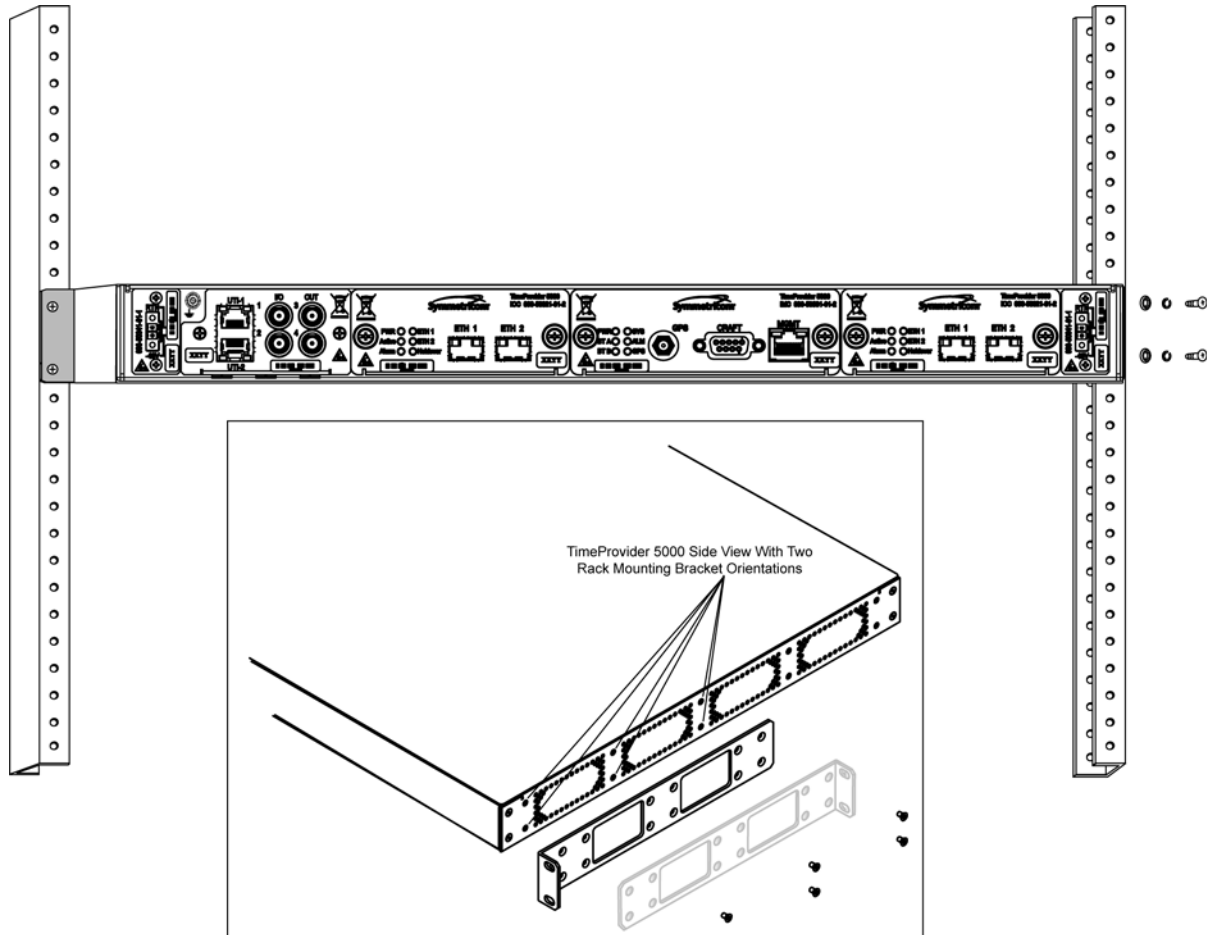
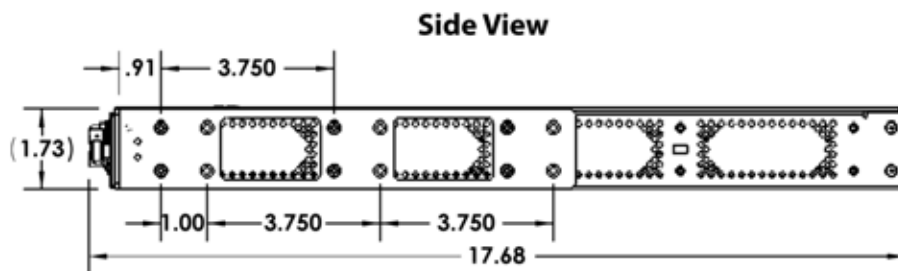
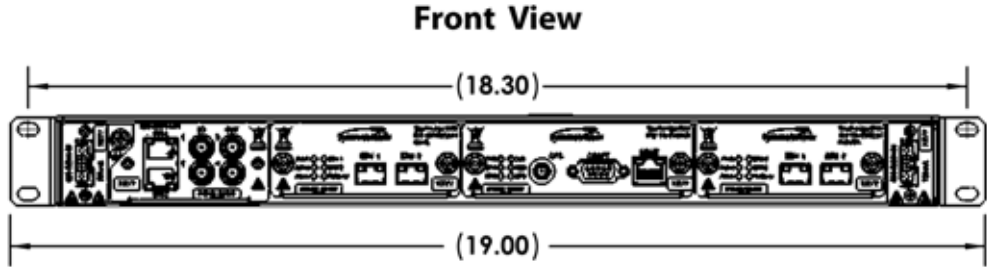
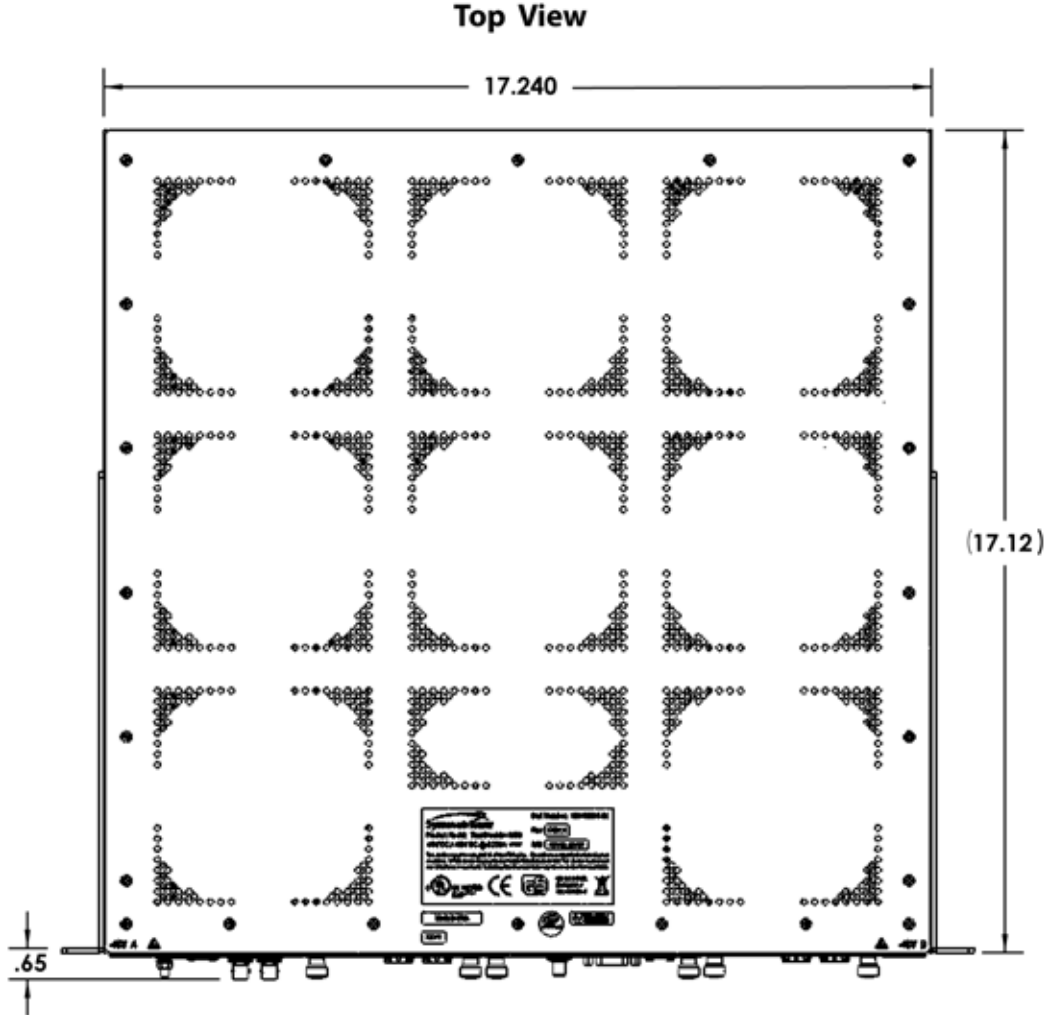

Figure 3-2. Installing the TimeProvider 5000
Figure 3-3. Chassis Dimensions – Side View
Figure 3-4. Chassis Dimensions – Front View
Figure 3-5. Chassis Dimensions – Top View
1. TimeProvider 5000 is shipped with rack mounting brackets attached. The rack mounting brackets can be removed and reattached in a different orientation, if desired. Ensure that the mounting brackets on both sides are attached to the chassis at equal distances from the front of the unit (see Figure 3-2) using 6-32 x 1/4-inch screws. See Figure 3-3 for mounting hole placements. See Figure 3-4 and Figure 3-5 for chassis dimensions.